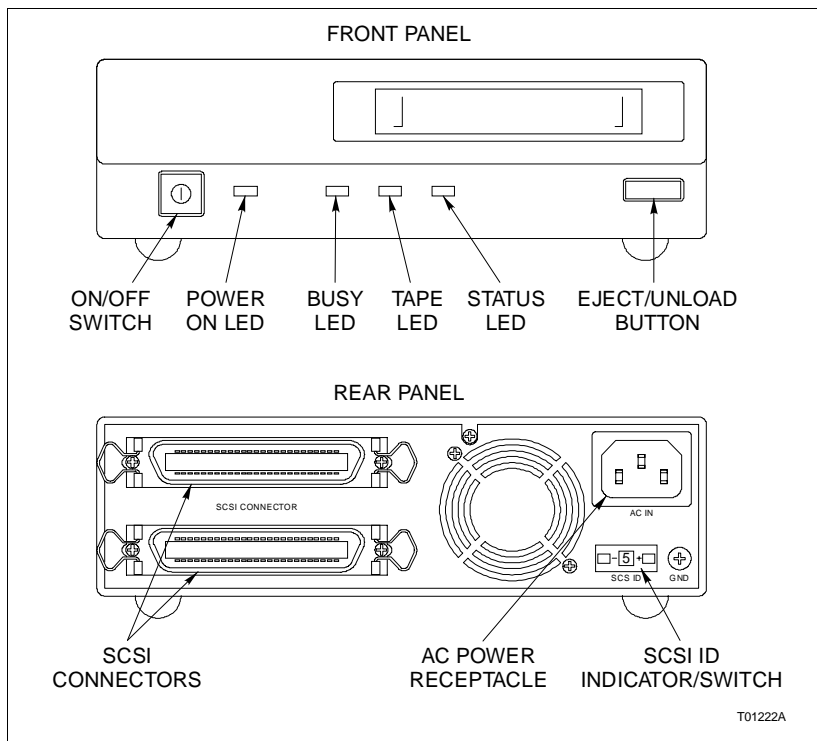

Figure PR39-1. DAT Tape Drive
- 3. Set the SCSI address on the SCSI address switch located on the rear panel of the DAT tape drive to 5 (Fig PR39-1). To do so, press the + or — button until the desired address (5) appears through the window.